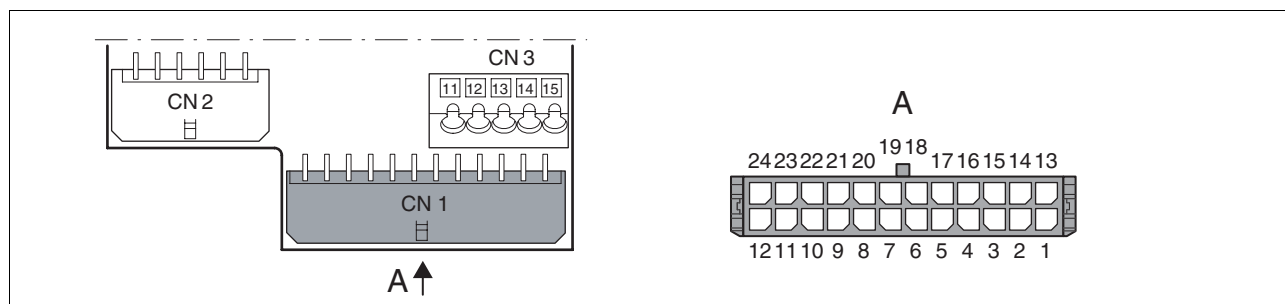

Figure 4.15 Wiring diagram signal interface
- ▶ (1) Strip the cable jacket, length A.
- ▶ (2) Slide the shield braiding back over the cable jacket.
- ▶ (3+4) Crimp the contacts to the wires. Insulate the shield braiding with heat shrink tube. Plug the crimp contacts into the connector housing; see Figure 4.15 for the pin assignment.
- ▶ (5) Strip the cable jacket to length C at the position shown; at this point, the cable is fastened to the EMC plate with a clamp (shield to ground connection).